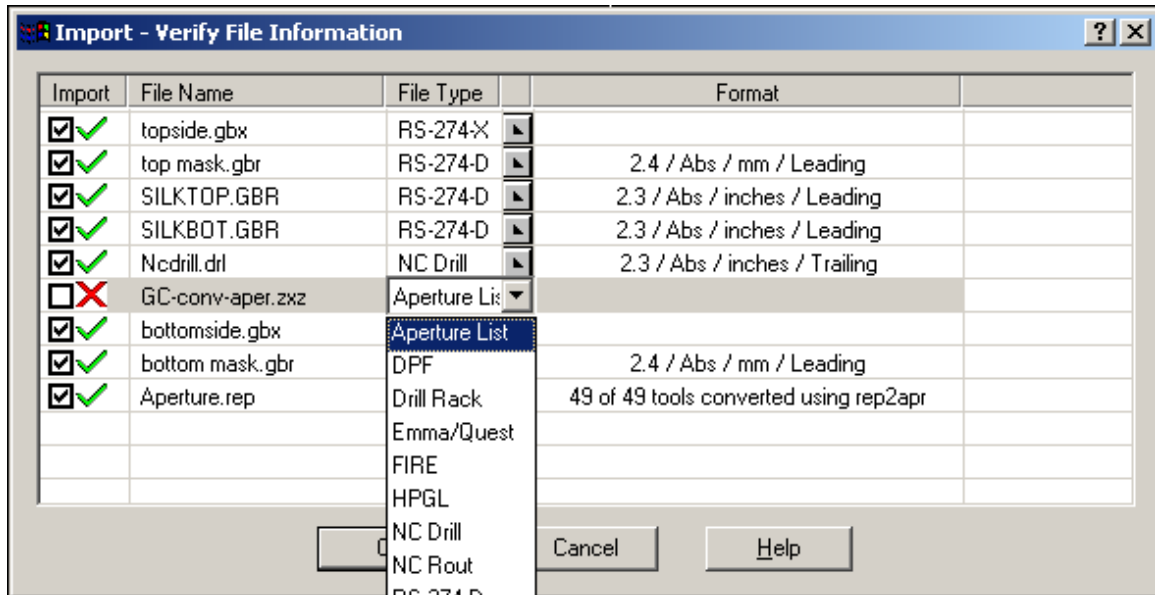

Figure 11: Verify File Information
6. In order to convert this unrecognized aperture format we select from the Drop-down list that is accessed through the down arrow in the File Type field (see Figure 11) and choose Aperture List.